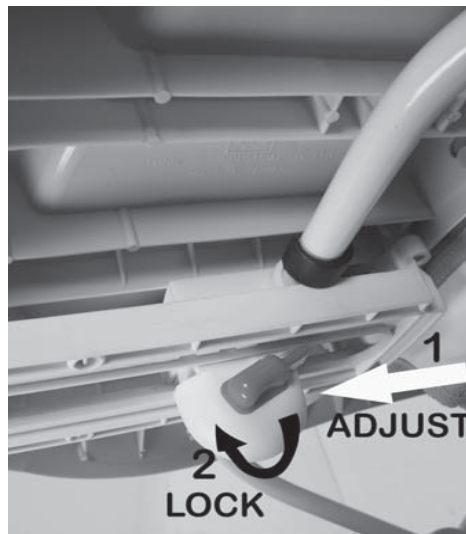

Fig. 17
1. To adjust walker to desired height (multiple positions available) Located on underside of the top frame pull the adjuster button (1.) forward Fig. 17 and adjust the top section to required height.
2. Turn the safety lock (2.) fully to ensure adjuster is locked in position. Fig. 17